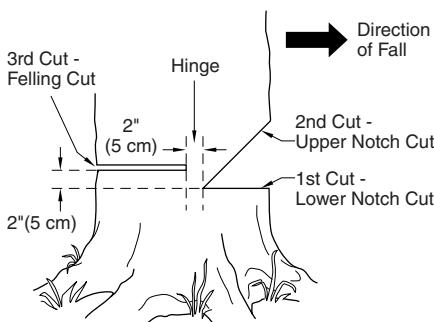

Figure 14 - Felling A Tree
A properly placed felling notch will determine direction tree will fall. Place felling notch on side of tree in direction you want tree to fall (see Figure 14). Follow directions below to create a felling notch.
1. Make lower notch cut as close to ground as possible. Hold saw so guide bar is horizontal. Cut 1/3 the diameter of tree trunk (see Figure 14). **Note:** Always make this horizontal lower notch cut first. If you make this cut second, tree can pinch chain or guide bar.
Example: If lower notch cut is eight inches deep, start upper notch cut eight inches above it. Cut downward at 45° angle. The upper notch cut should meet end of lower notch cut (see Figure 14).
1. Make felling cut two inches higher than lower notch cut and on opposite side of tree (see Figure 14). Keep felling cut parallel to lower notch cut.
⚠ WARNING: Do not cut all the way through tree. Leave about two inches of tree diameter uncut directly behind felling notch (see Figure 14). This uncut portion acts as a hinge. The hinge helps keep tree from twisting and falling in wrong direction.